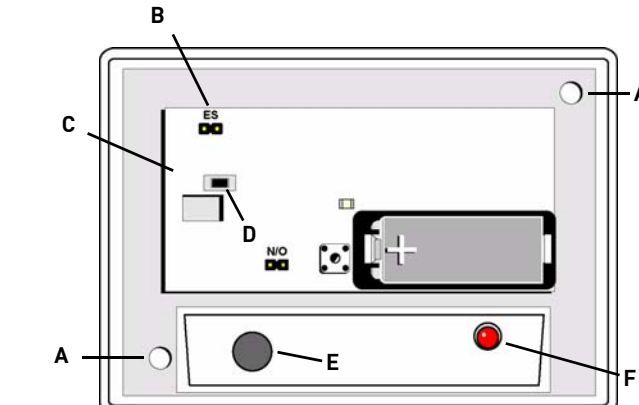

Fig. 1 EE1247 Components
- Install the battery (Fig. 1).
- Press the Reset button to initialize the transmitter (Fig. 1).